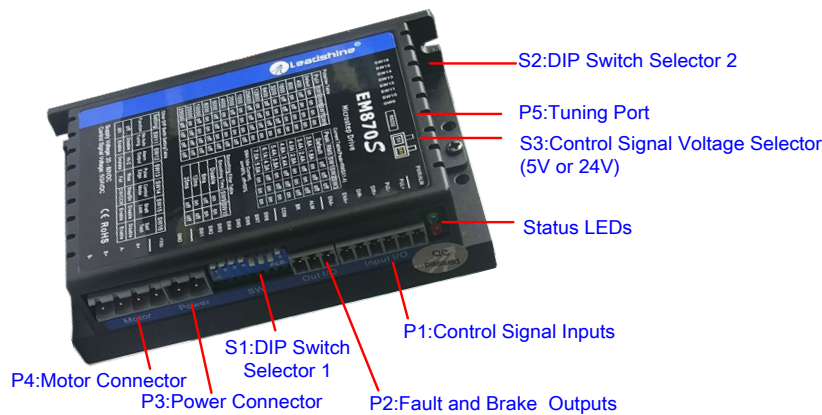

Figure 2 Connectors, DIP switches, and LED locations
| PUL+ (CW+) | Pulse and Direction Connection: (1) Optically isolated, high level 4.5-5V or 24V, low voltage 0-0.5V (2) Maximum 200 KHz input frequency, 500KHz customized model is available (3) The width of PUL signal is at least 2.5μs, duty cycle is recommended 50% (4) Single pulse (step & direction) or double pulse (CW/CCW) is set by DIP Switch SW14 (5) DIR signal requires advance PUL signal minimum 5 μs in single pulse mode (6) The activated edge of PUL and DIR is set by DIP Switch SW13 (7) The factory setting of control signal voltage is 24V, must need to set S3 (figure 2) if it is 5V |
| | Enable Connection: Optional. (1) Optically isolated, differential. (2) Disable the drive by 4.5-5.0V or 24V input connection; enable the drive by 0-0.5V connection(default no connection) (3) ENA signal requires advance DIR signal minimum 5μs in single pulse mode (4) The default control signal voltage is 24V, to set S3 (figure 2) if it is 5V (5) Enable time to be at least 200ms |
The EM870S can accept differential or single-ended control signals (pulse, direction, and enable) in open-collector or PNP connection through the P1 connector (figure 2). It is recommend to add an EMI line filter between the power supply and the drive to increase noise immunity for the drive in interference environments.
The first 8-bit is located on the side (DIP switch selector 1 in Figure 2) and used to configure settings of micro step resolution, output current, and motor standstill current as shown below, the factory setting of SW1-SW8 is OFF, OFF, OFF, OFF, OFF, OFF, ON, ON.
The second 8-bit DIP switch is located on the top (DIP switch selector 2 in figure 2), and used to configure settings of control command filtering time, motor auto-configuration, fault output impedance, pulse active edge, control mode, lock shaft, and self-test as shown below, the factory setting of SW1-SW8 is OFF, OFF, OFF, ON, ON, OFF, OFF, OFF.
The Third 1-bit selector is located on the top (DIP switch selector 3 in figure 2), used to configure the voltage of control signals. For the safety of optically coupled, the factory setting is 24V, which no need to connect 2K resistors like the old drives, making it easier to use. When the voltage of the control signal is 5V, the S3 must be set to 5V, otherwise, the motor won't work.